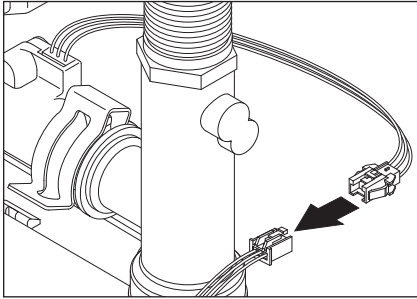

Figure 24 - Disconnecting 3 Pin Wire Harness
- 12** Disconnect the 3 pin wire harness. Connector will be located near the cold water supply opposite from Smart Valve as shown in Figure 24. Place wires aside in a safe location so they are not damaged.